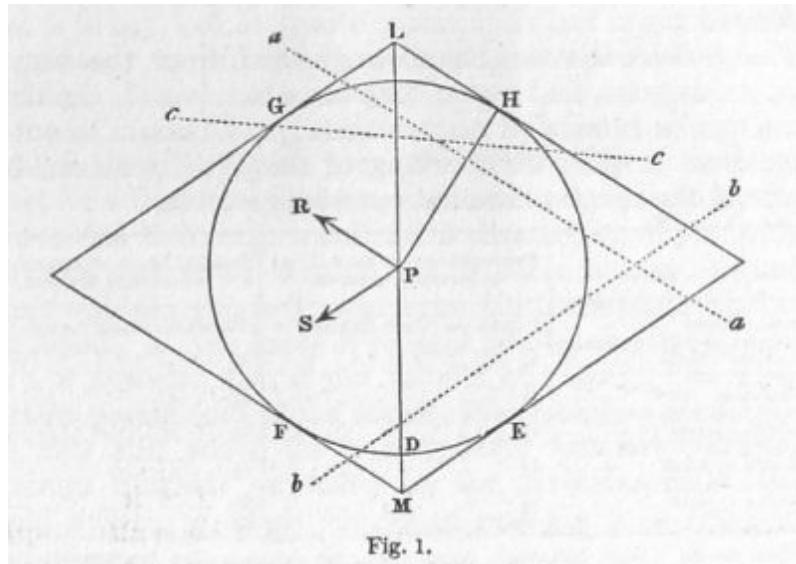

Fig. 1.
1. Let P (fig. 1) be the point where the traveller finds himself at fault, and let P D to be a distance within which the path certainly lies; then the circle, E D F, somewhere cuts the path, and the traveller starting from P must first go to D, and then make the entire circuit, D E H F D, before he has exhausted his search. This distance of $P D + D E H F D = P D + 6 P D$ nearly, = 7 P D altogether, which gives the length of road that the man must be prepared to travel over who can answer no other than the question A. Of course, P D may cut the path, but I am speaking of the extreme distance which the lost man may have to travel.